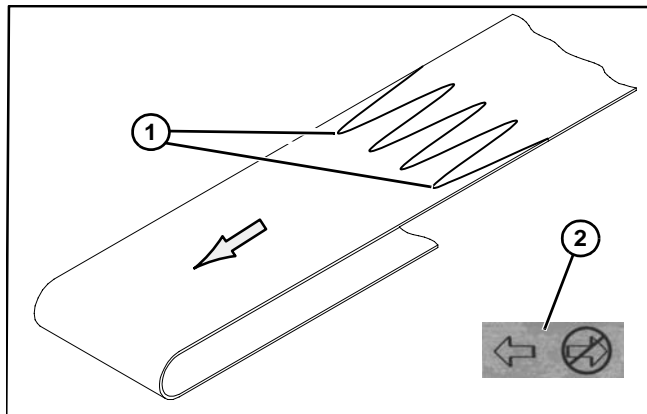

Figure 65
1. Orient belt so splice leading fingers (**Figure 65, item 1**) point in the direction of belt travel as identified by the conveyor directional label (**Figure 65, item 2**).
2. Orient belt so splice leading fingers (**Figure 65, item 1**) point in the direction of belt travel as identified by the conveyor directional label (**Figure 65, item 2**).